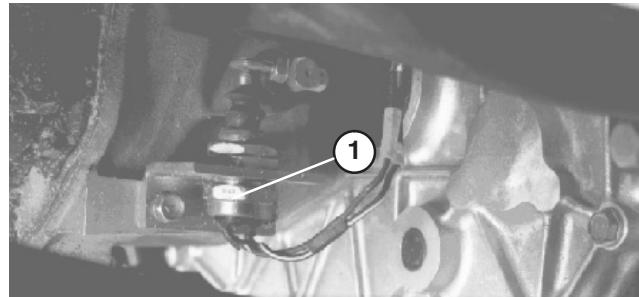

Figure 59
7. Recheck clutch safety switch adjustment (Fig. 59). Engine must not crank unless clutch pedal is  $1.25" \pm .12"$  from floor. If an adjustment is required, loosen switch jam nuts and adjust up or down.